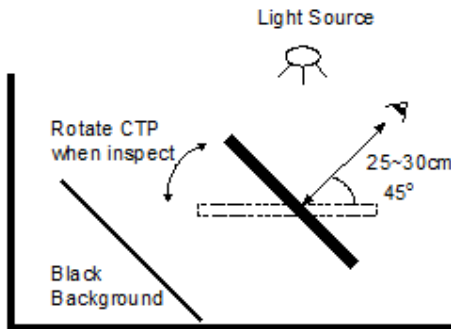

Figure 1
- 7.2.1 Under black background, 1.0K- 1.5K Lux, rotate the C-TP from head on to 45° to check on defects such as foreign material, line shape, pin hole, bubble, scratches, dented and chips. (Figure 1)